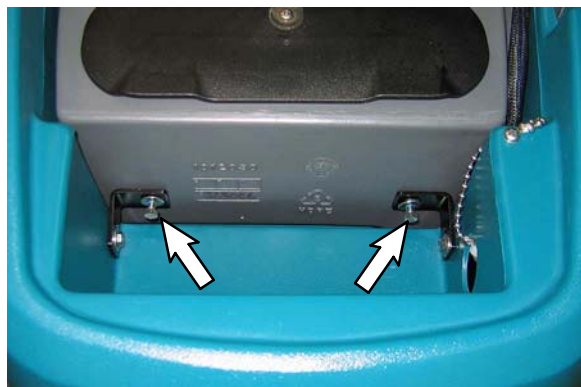

Fig. 2
b.) Remove the two screws that mount the front of the shroud to the solution tank (Figure 2).